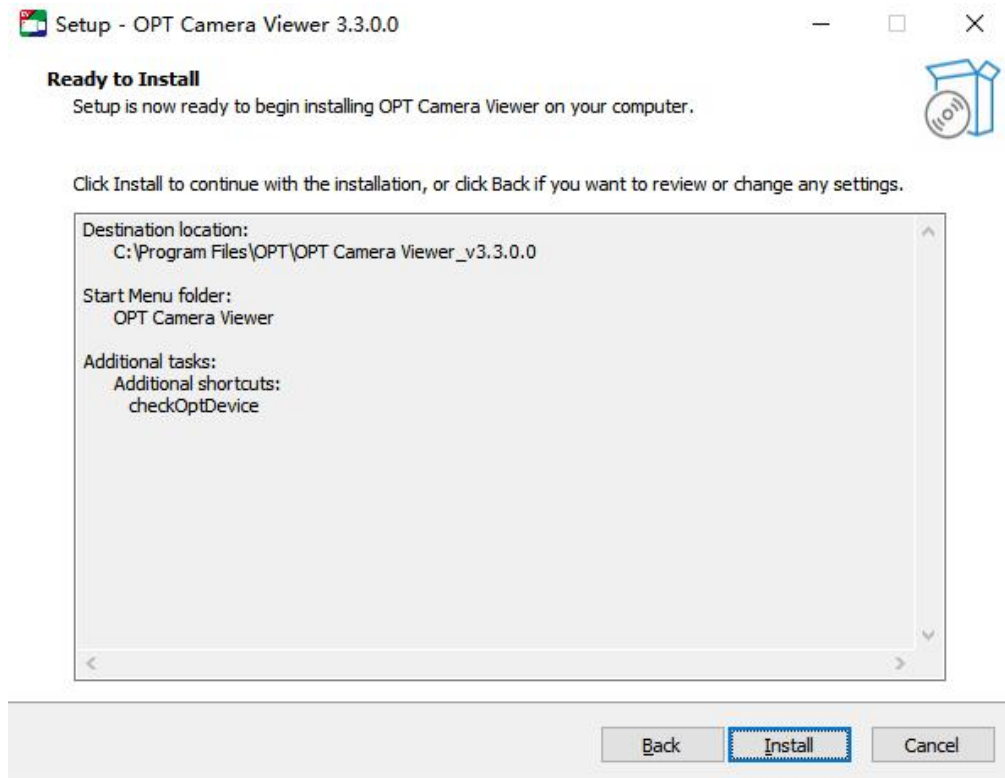

Figure 3-5 Ready to Install Window
6. Enter the Ready to Install window as shown in Figure 3-5, and click Next to continue the installation process.